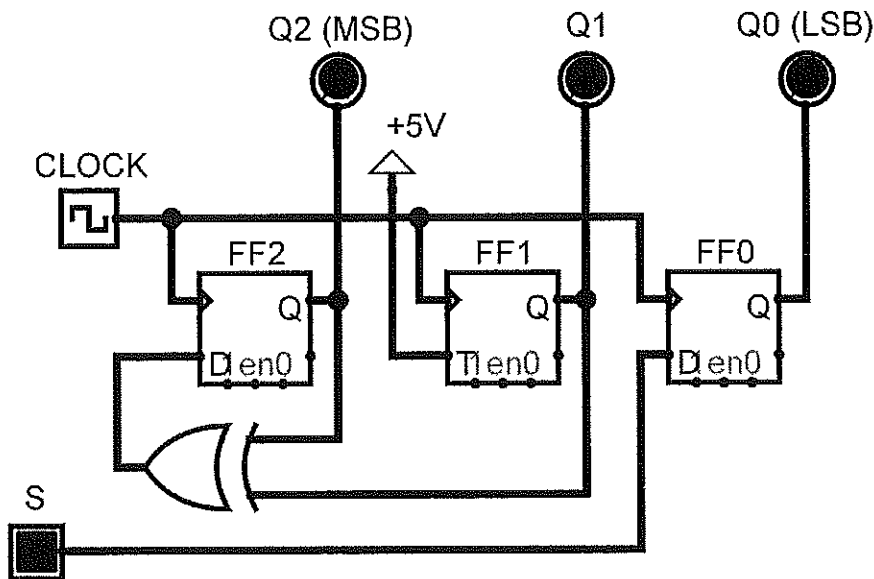

Figure 4(b)
- (b) Figure 4(b) below shows a 3-bit synchronous counter which is designed so that it performs a special counting sequence. Analyse its operation by determining its counting sequence. Switch S is a control signal used to control the sequence of the counting. Flip-flop FF2 is MSB and FF0 is LSB. Use $D_2T_1D_0$ inputs labelling for Q_2, Q_1 and Q_0 outputs. Show all workings clearly.